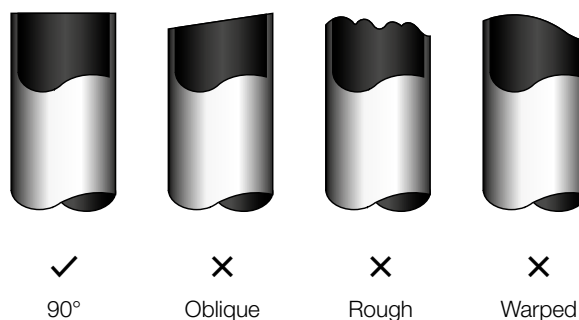

Fig. 7.3
3. Make sure that the pipe is cut at a perfect 90° angle. Refer to Fig. 7.3 for examples of good and bad cuts.